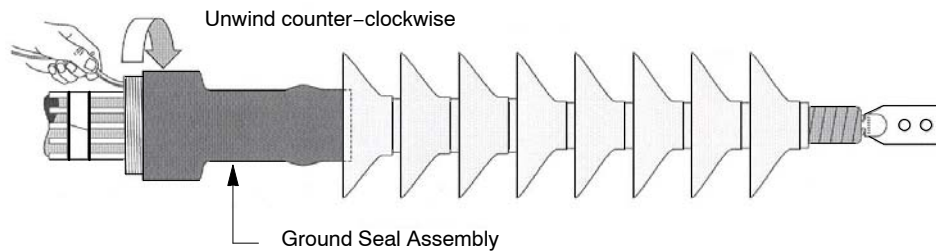

Figure 12
15. Slide the parked ground seal assembly onto the termination. Start to shrink underneath the first skirt. Remove the core by pulling the loose end while unwinding counter-clockwise. (Figure 12)